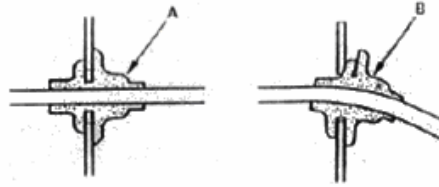

Fig. 4-8
8. Locate the gum cover right into the groove of corresponding mounting hole, and be aware not to distort the gum cover (B). (Fig. 4-8)